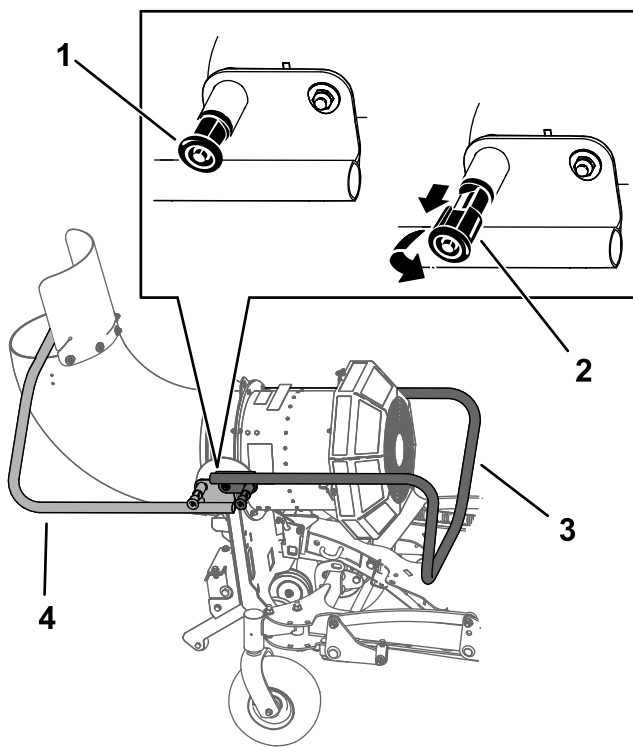

Figure 21
4. Pull out the kickstand locking pins on both sides of the machine, rotate them 90 degrees so that they are disengaged, and rotate the kickstand away from the machine (Figure 21). Engage the pins and ensure that they snap into position.